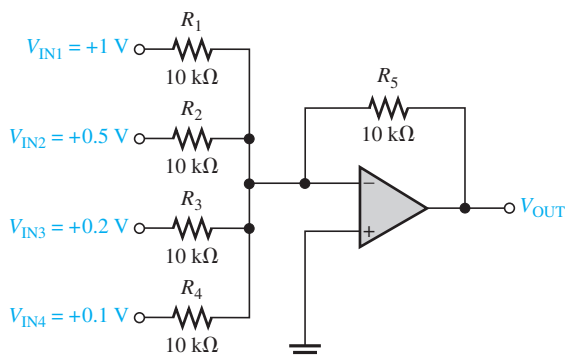

FIGURE 8-42
- What is the normal output voltage in Figure 8-42?